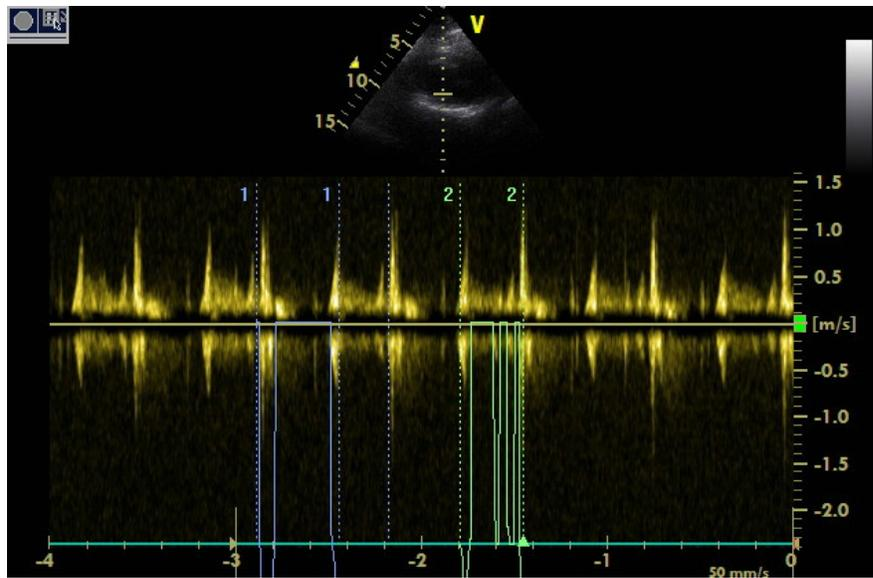

Fig. 3-2
**Issue:** Doppler trace measurement below the base line does not trace well and “spikes” to the bottom of the spectrum (Fig. 3-2). This does not happen in PW where the trace follows the spectrum as expected.